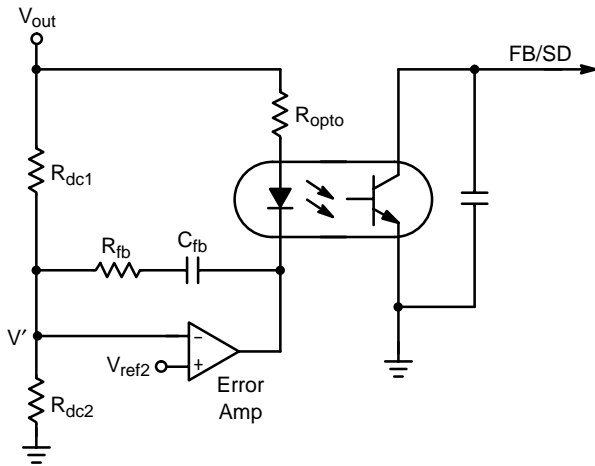

Figure 37. Error Amplifier Circuit
In the circuit of Figure 37, the amplifier and reference need to be rated at the maximum voltage that the output will experience, including transient conditions. Resistors R_{dc1} and R_{dc2} need to be chosen such that the voltage at V' is equal to V_{ref2} when V_{out} is at its regulated voltage. R_{opto} is a current limiting resistor that protects the optocoupler from current transients due to output surges.